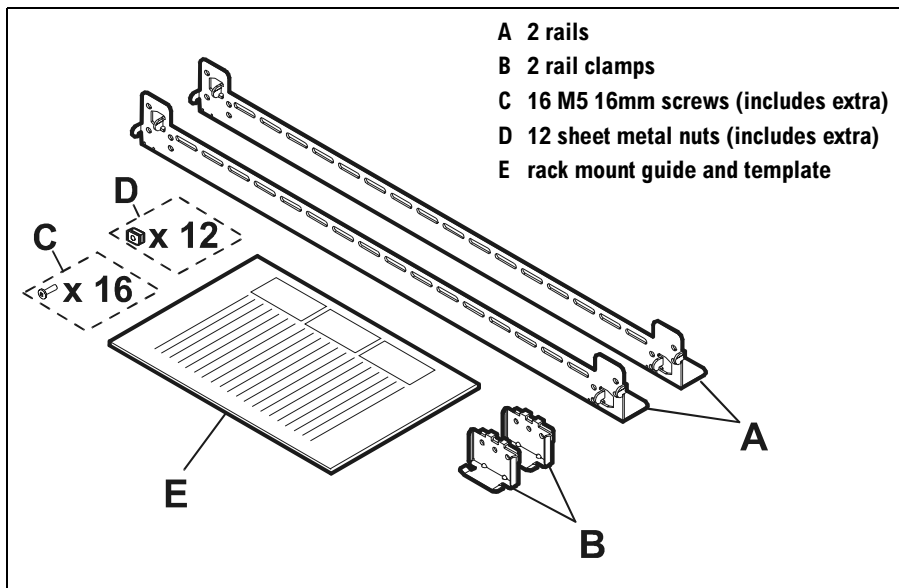

Figure 21 Rail Kit HP A5251A Contents
1. Unpack the rail kit A5251A and verify the contents shown in Figure 21. If a part is missing, contact an HP sales representative.